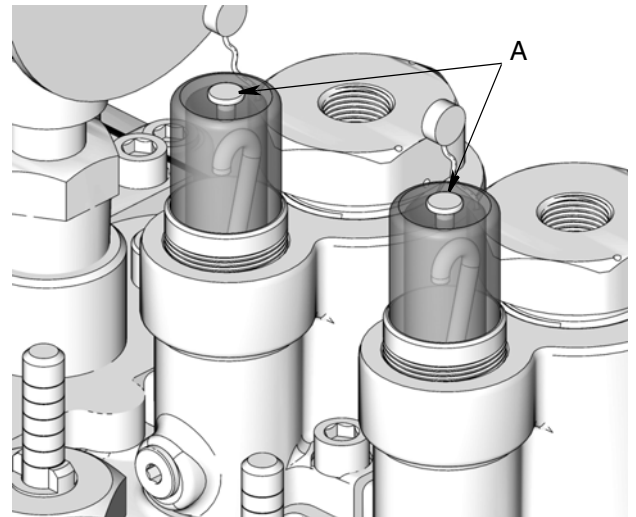

FIG. 11
- b. Remove vent plug (A) (FIG. 11).
- d. Replace vent plug (A).
- b. Remove vent plug (FIG. 11, page 9).